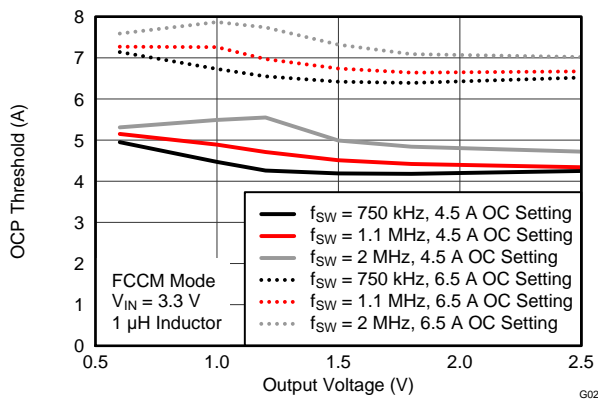
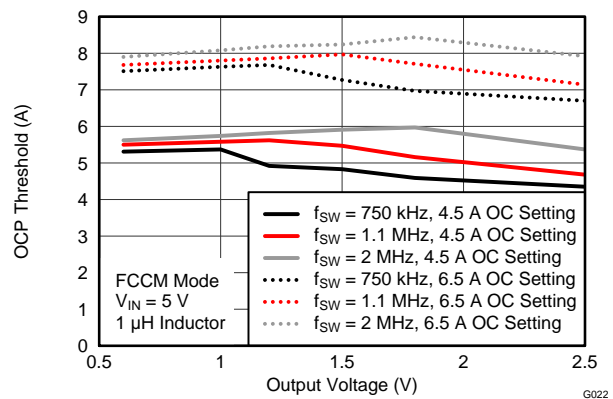

Figure 5. OCP Threshold vs. Output Voltage
Figure 6. OCP Threshold vs. Output Voltage
(1) Ensured by design. Not production tested.
(2) See Figure 5 and Figure 6 on OCP level for other operating conditions.